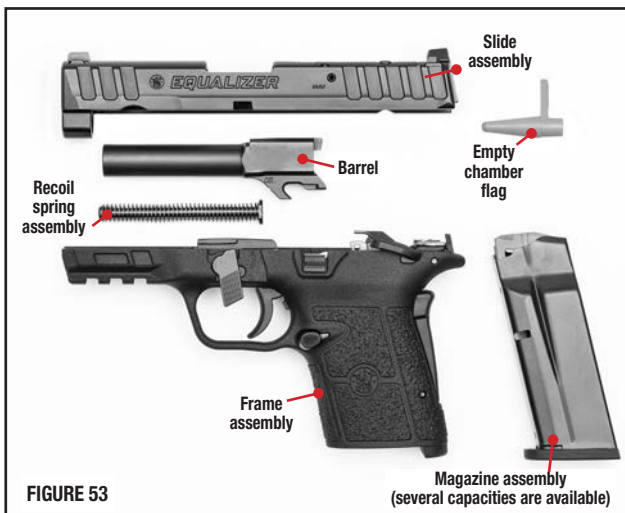

FIGURE 53
- (FIGURE 53) shows the pistol field stripped for cleaning.